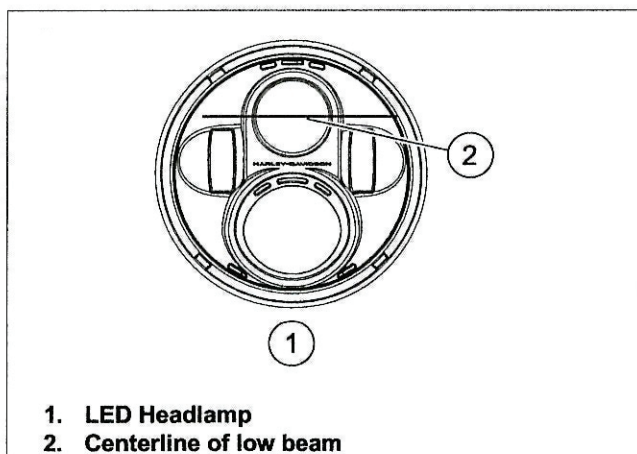

Figure 3. LED Headlamp Configuration
4. See Figure 3. Position motorcycle so front axle is 25 ft (7.6 meters) (3) from wall.
5. See Figure 3. With vehicle laden and upright, point the front wheel straight forward at wall. Measure the distance from the floor to the center of the **low beam** lens (2). Record this measurement.